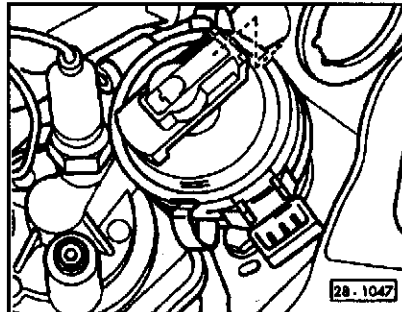

fig. 2
2. Move camshaft sprocket to cylinder number one TDC mark by turning the crankshaft clockwise with a 19mm socket until the dot on the camshaft pulley lines up with the upper edge of the camshaft drive belt inner cover (fig 3.) Check TDC by removing the distributor cap and making sure that the rotor is lined up with the notch on the distributor (fig 2.) The flywheel should also be at TDC (fig 4.) If these marks do not line up, you will need to continue to rotate the crankshaft until they do.
7. Using a special spanner wrench (AST P/N 10.012.86400 or equiv.), tighten the drive belt by rotating the tension pulley in the direction of the arrow (fig. 2). The belt should feel tight when twisted 90 degrees with the thumb and forefinger, halfway between the camshaft and intermediate shaft pulleys. Tighten the pulley retaining nut to 33 ft/lb.